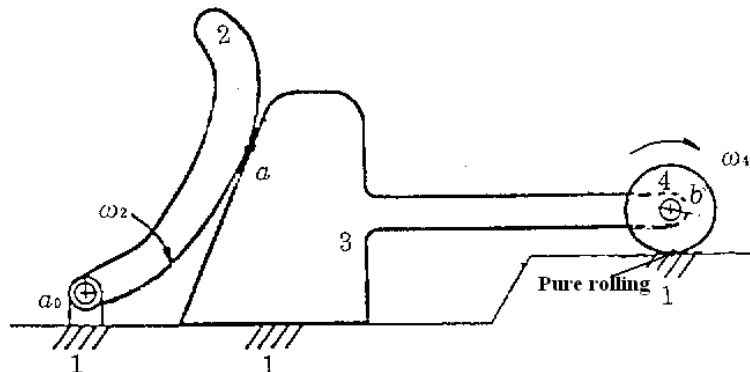

Figure 4 A four-bar linkage
4. Figure 4 shows a four-bar linkage. The angular velocity $\omega_2 = 2 \text{ rad/s}$ (c.w.) of the input crank (link 2) is given; find the angular velocity of link 4 by using instant centers method. (25%)